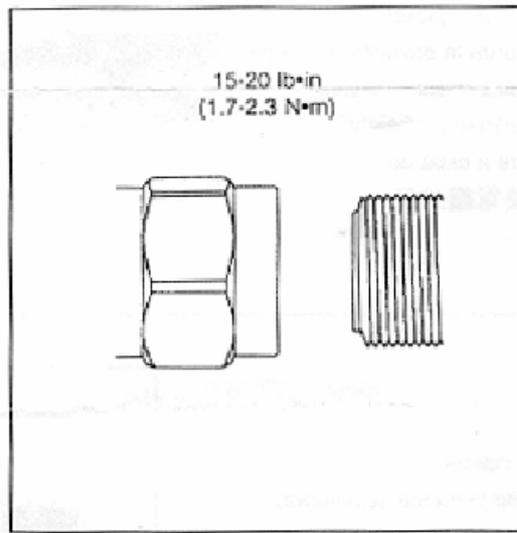

Figure C-20 Fitting torque
- 14) Fit the torque, as shown in Figure C-20.